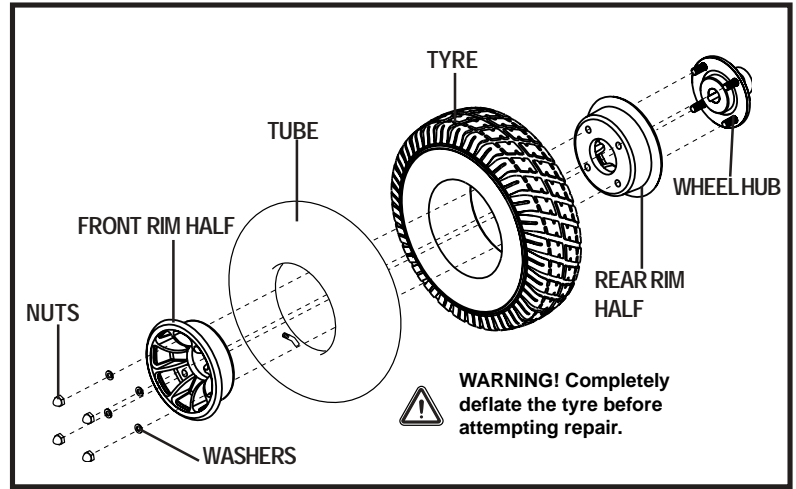

Figure 24. Quantum Dynamo 1107 Drive Wheel Disassembled
6. Remove the nuts and washers from the wheel hub and separate the rim halves. See figure 24.